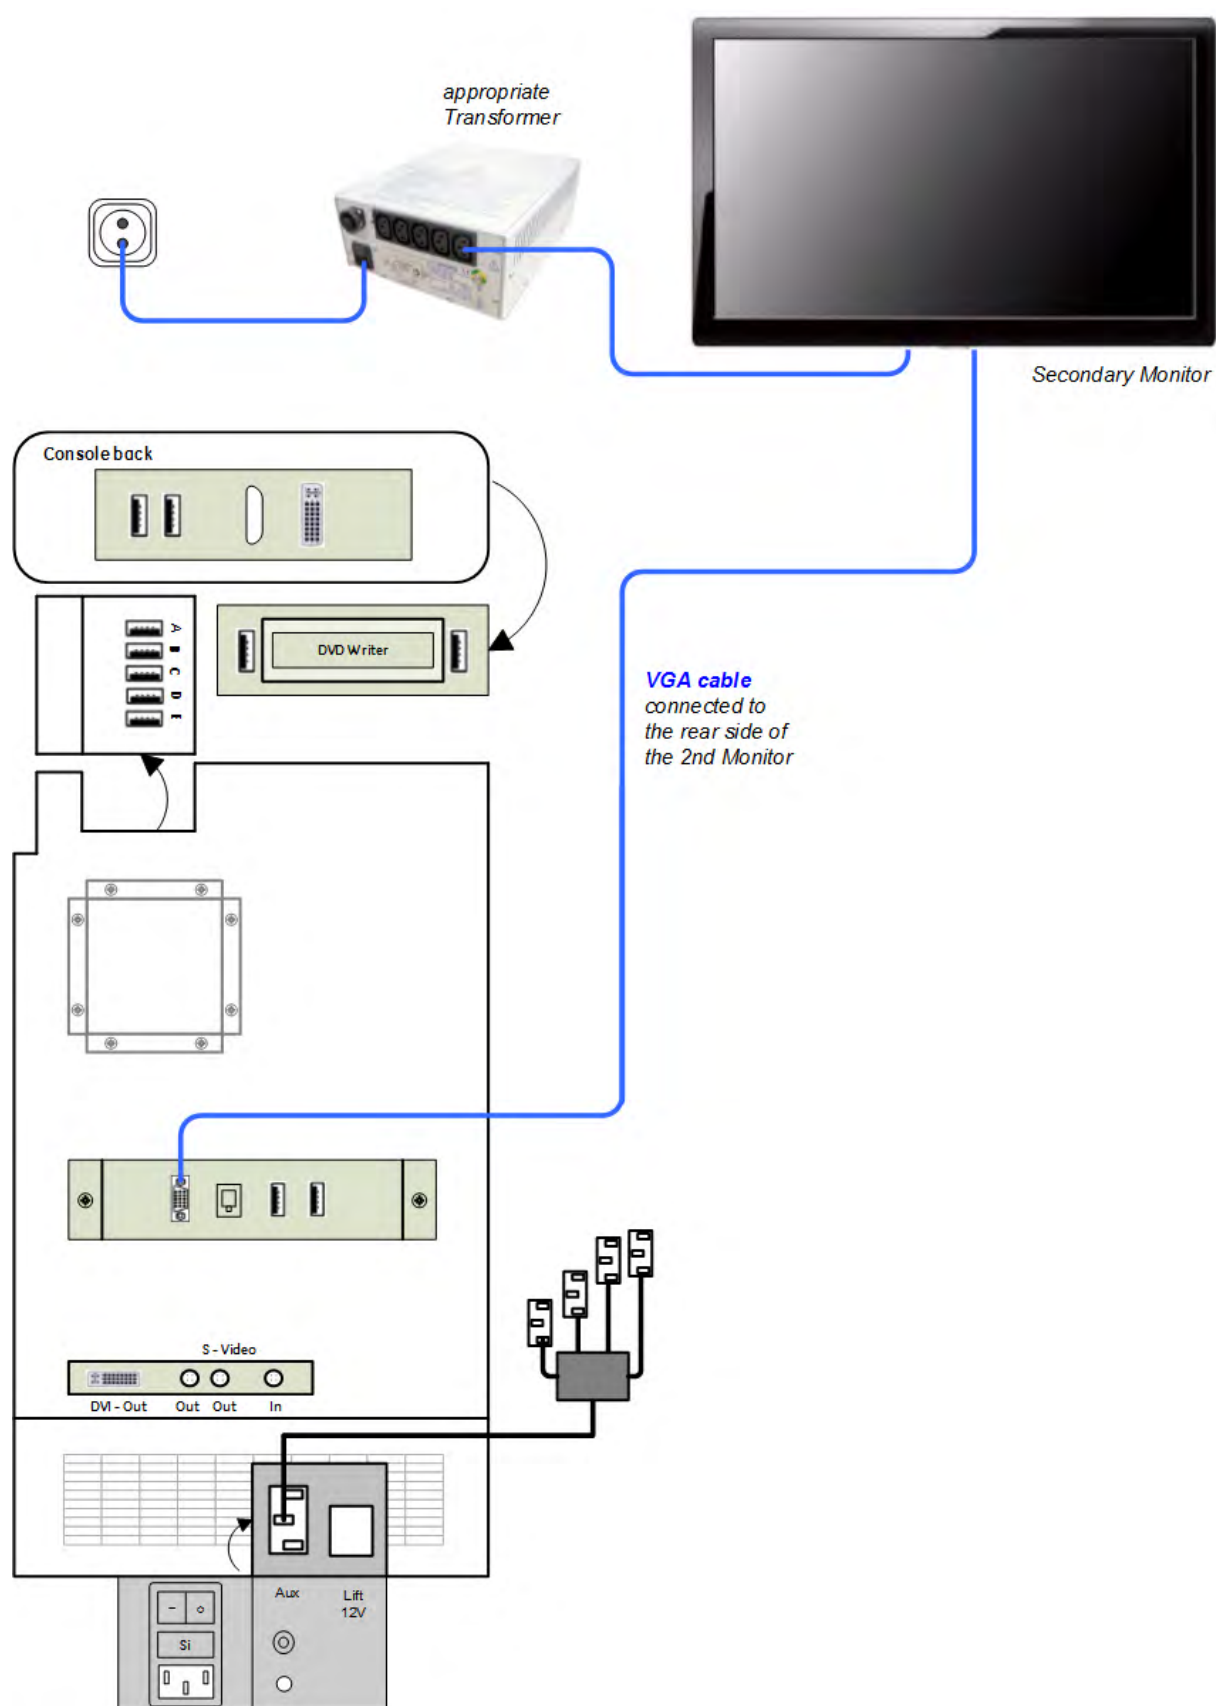

Figure 3-23 Connection Scheme - Secondary Monitor
2. Connect the Secondary Monitor according to connection scheme, see: Figure 3-23 on page 3-33.